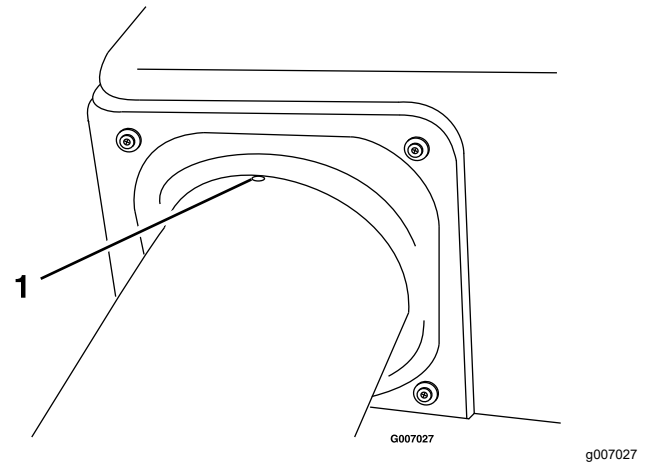

Figure 41
4. Align the dimple in the upper tube equally between the screws securing the hopper seal to the hopper (Figure 41).
8. Verify that the dimple from Figure 41 is still in place.